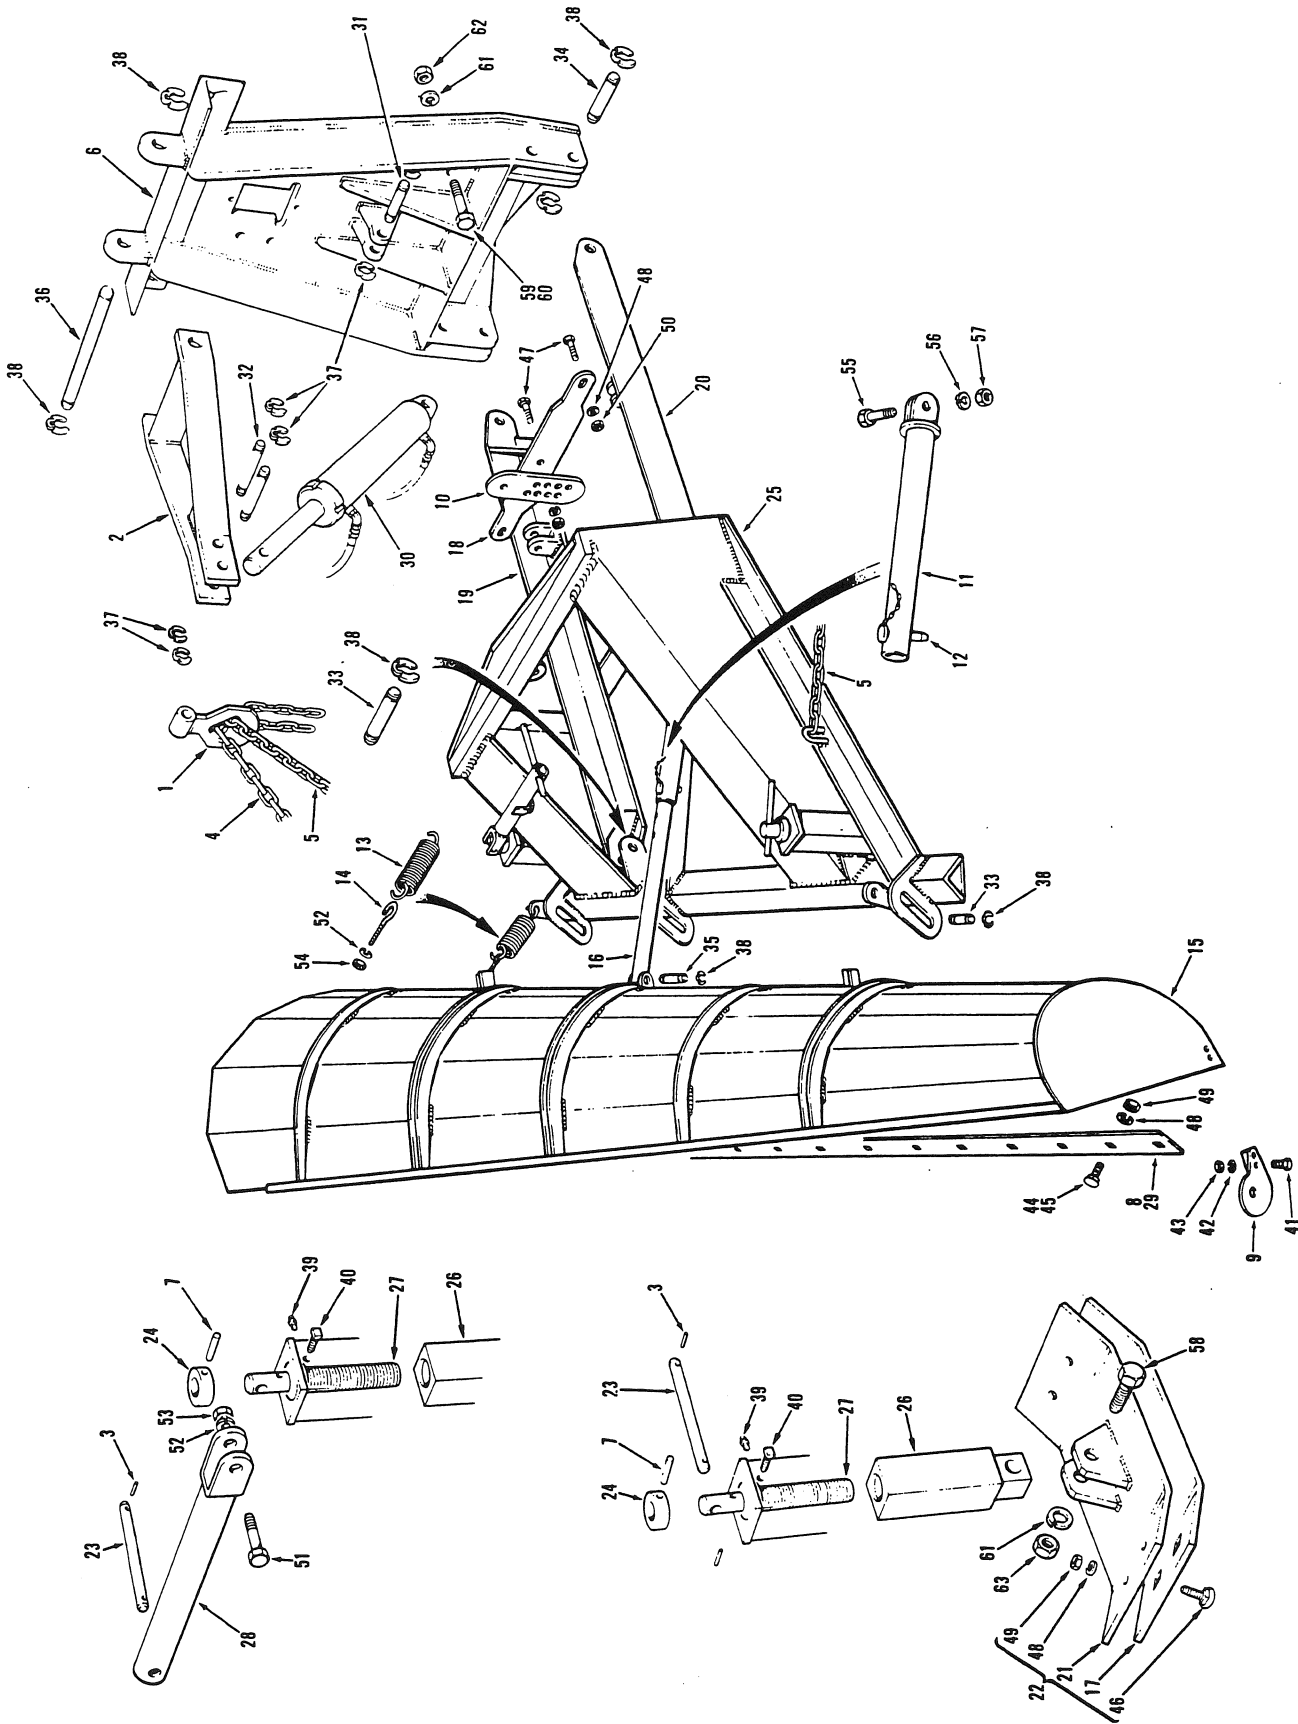
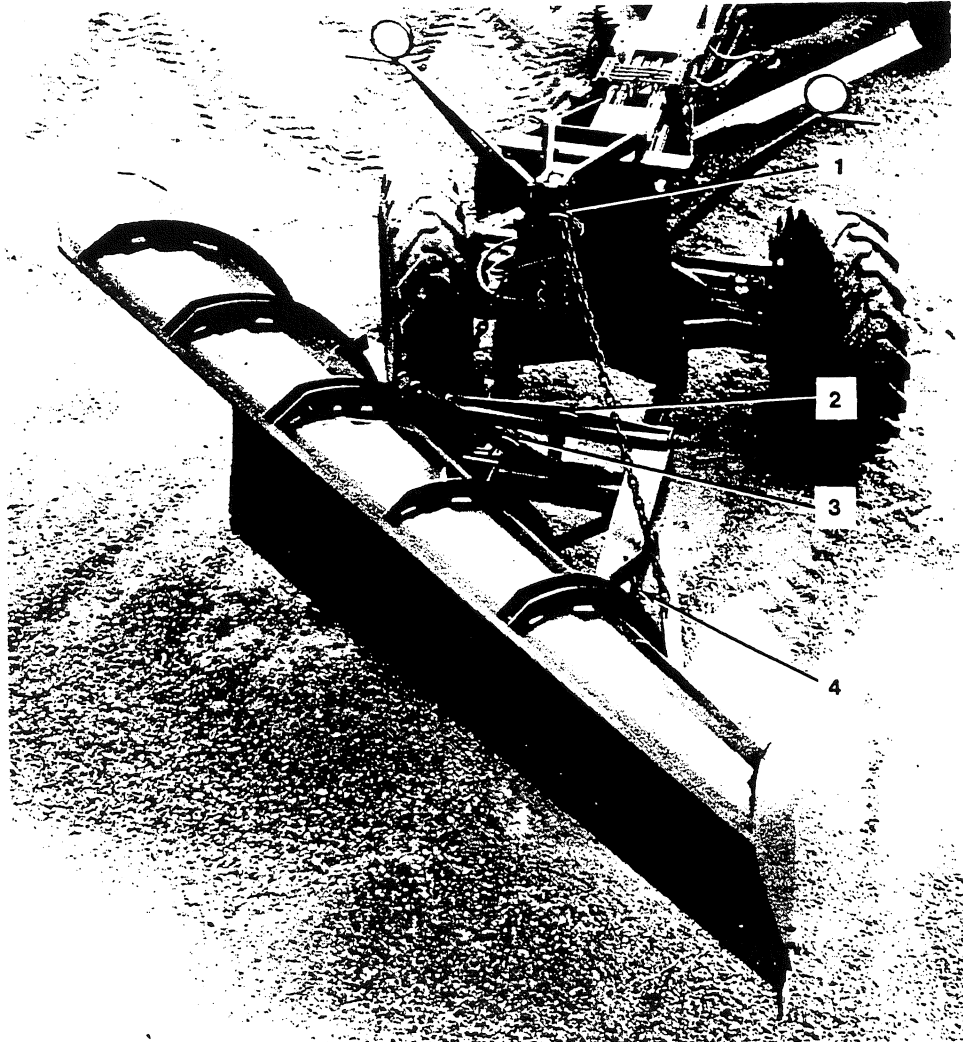

Figure 9
Figure 10
KEY TO FIG. 9
1. Removal and Disassembly (Fig. 9).
13. Assembly and Installation (Fig. 9). Install the yoke (2) onto the A-frame (6), and retain with the pin (36). Secure the pin with two kliprings (38).
14. Attach suitable lifting tackle to the yoke. Hoist the yoke and A-frame into position on the grader nose plate. Install the eight hexagon head bolts (59 or 60), nuts (62) and lockwashers (61).
15. Place the cylinder (30) in position, and retain with the pins (31 and 32) at the yoke and the A-frame. Secure each pin with two kliprings (37). Remove the lifting tackle.
16. Install the spade (1), and retain with the pin (32). Secure the pin with two kliprings (37).
17. Place the long and short push bars (20 and 19) (left hand side and right hand side, respectively) into position at the push frame. Install the two pins (33), and secure with the kliprings (38).
18. Install the stabilizer bar (18), and secure to the push bars with the two hexagon head capscrews (47), nuts (50) and lockwashers (48).
19. Install the vertical adjustment bar (10), and secure with the hexagon head bolt (47), nut (50) and lockwasher (48). Secure the stabilizer bar to the vertical adjustment bar with the hexagon head bolt, nut and lockwasher.
20. Insert the inner adjusting link (16) into the outer adjusting link (11), and secure with the shear pin (12). Secure the outer adjusting link to the push frame with the hexagon head bolt (55), nut (57) and lockwasher (56).
21. Attach suitable lifting tackle to the push frame (25) and place in position at the A-frame attachment points. Install the two pins (34), and secure with the kliprings (38). Remove the lifting tackle.
22. Attach the hoist to the one-way snow plow blade (15) and place into position at the push frame attachment points. Install the three pins (33), and secure with the klipring (38).
23. Install the eyebolts (14) and springs (13), and secure with the nuts (54) and lockwashers (52). Install the two chains (4, 5) into the slots of the spade. Secure the inner adjusting link with the pin (35), and install the two klipring (38). Remove the lifting tackle.
25. Adjustments (Figs. 9 and 10). The plow shoes should be adjusted so that the edge of the plow is high enough to prevent scraping the road surface.
26. Two shoes (22, Fig. 9) are connected to an adjustment screw and swivel assembly by one hexagon head bolt (58, Fig. 9), nut (63, Fig. 9) and lockwasher (61, Fig. 9) per shoe. Adjustment is effected by raising the one-way plow blade off the ground and turning the adjusting screw handle (23, Fig. 9) until the desired height is obtained (4, Fig. 10). Lower the blade.
27. The blade pitch can be varied by removing the shear pin connecting the inner and outer adjusting link, tilting the blade to the desired angle; then installing the shear pin in the alternative hole (3, Fig. 10).
28. If the one-way plow tends to tip to one side or the other when being raised or lowered, remove any slack in the chains by adjusting at the spade slots until a level movement is obtained (1, Fig. 10).
29. To accommodate for differences in tire sizes, position the stabilizer bar to suit these conditions, and install the hardware in the appropriate hole of the vertical adjustment bar (2, Fig. 10).
30. A worn edge (8 or 29, Fig. 9) can be replaced by removing the quantity of carriage bolts (44 and 45, Fig. 9), nuts (49, Fig. 9) and lockwashers (48, Fig. 9); then removing the edge.
32. Worn outer shoes (17, Fig. 9) can be replaced by removing the required quantity of carriage bolts (46, Fig. 9), nuts (49, Fig. 9) and lockwashers (48, Fig. 9); then removing the outer shoe.